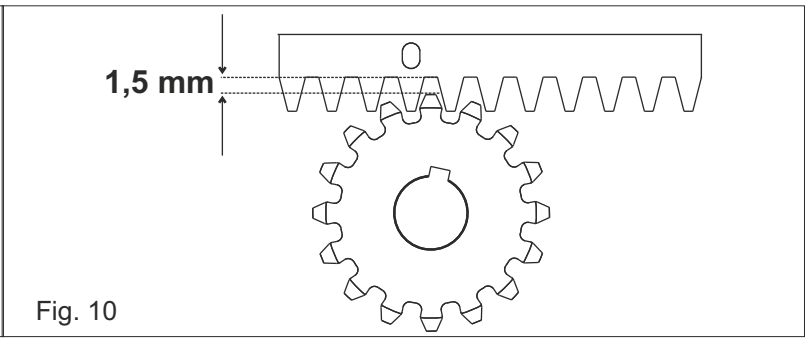

Fig. 10
5.6. To avoid that the gate weights down the pinion (Fig. 10) lift up the whole rack about 1,5 mm.